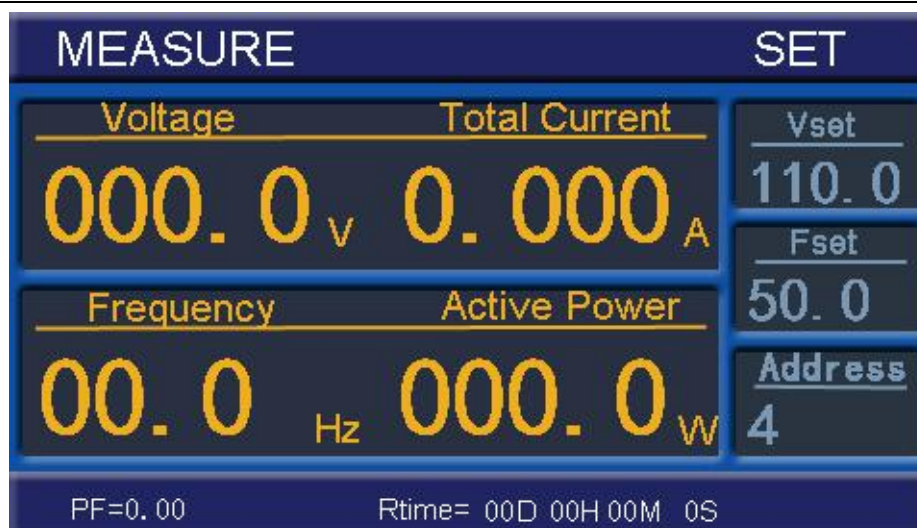

Fig.5 Power Setting state
5. 1. 2. 2 Press Setting key **Fset** to enter into setting state (as shown in Fig.5), set the frequency, upward & downward fluctuation parameters via pressing the Increase key and Decrease key. After the parameter setting is finished, pressing the **STOP** key can return to standby state again.